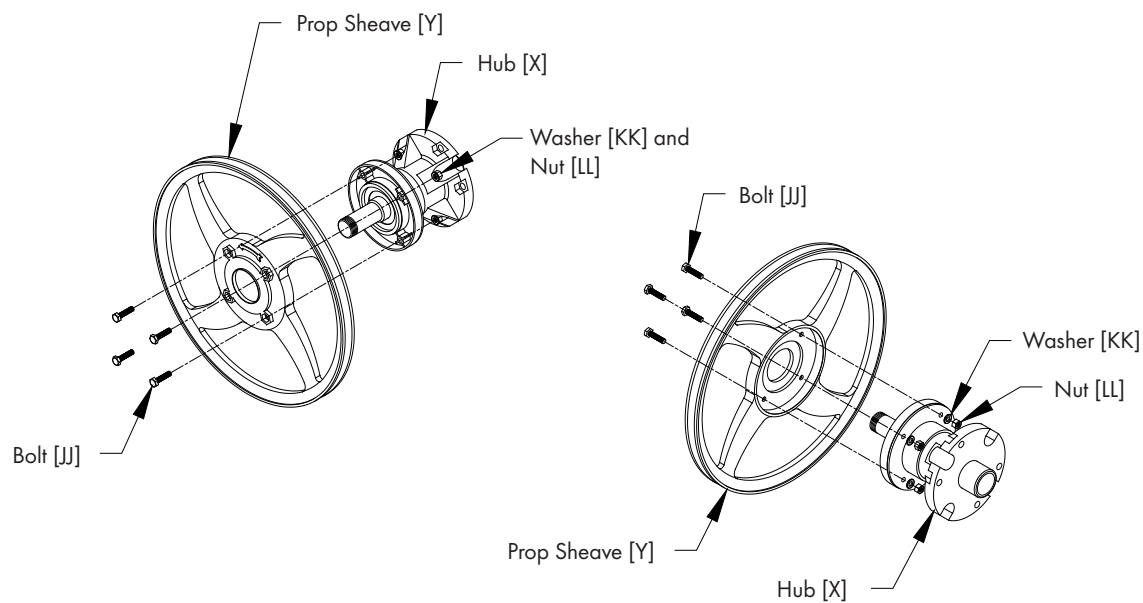

Figure 5
Attach Prop Sheave [Y] to Hub [X] using (4) Bolts [JJ], Washers [KK] and Nuts [LL]. See Figure 5.